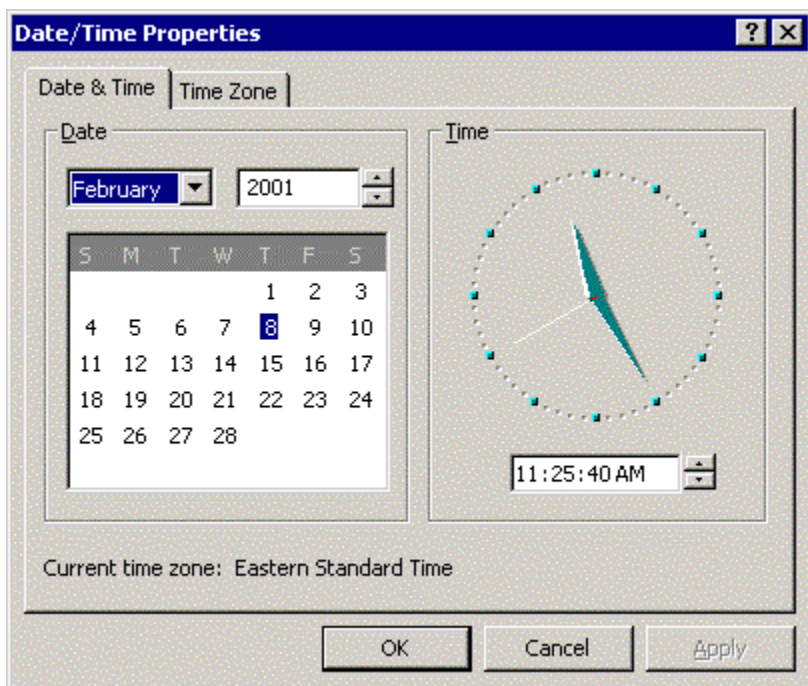

Figure 5-3 *Date/Time Properties* Dialog Box
- 6 Check that the time and date is properly indicated on the report. If the time/date are not correct, click on the time on the bottom right corner to present the *Date/Time Properties* dialog box (Figure 5-3) and edit these parameters as appropriate.